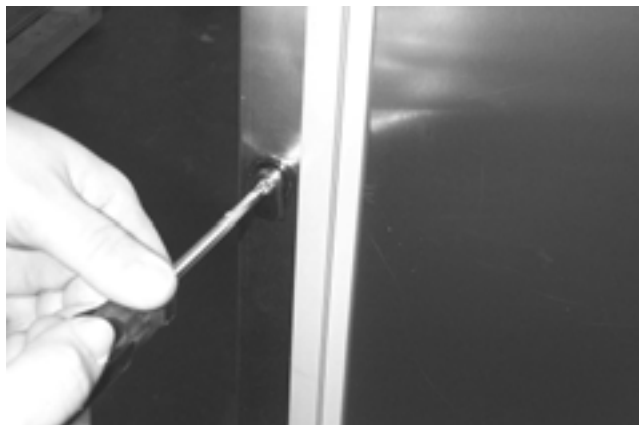

Figure 4-40
1. Remove the foot from the door lock assembly (Figure 4-40).